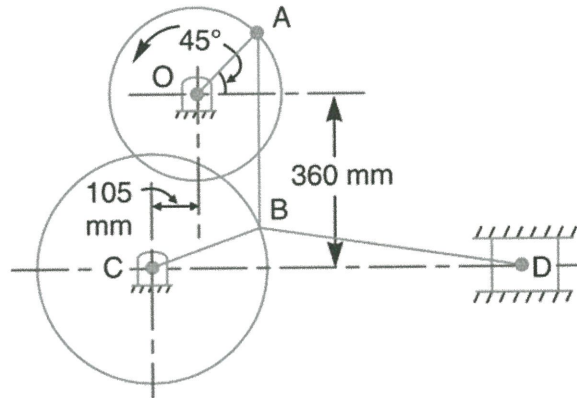

FIGURE Q4
- Q4** **Figure Q4** shows a toggle mechanism. The slider D is constrained to move on a horizontal path. The crank OA is rotating in the counter-clockwise direction at a speed of 180 r.p.m. The dimensions of various links are as follows :